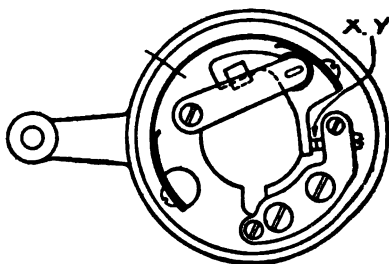
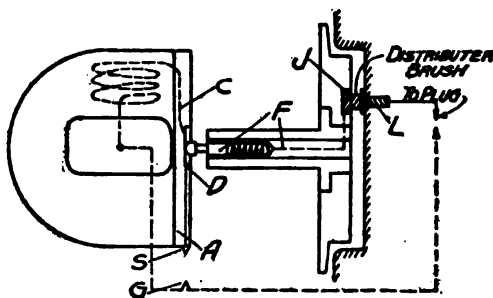

Fig. 75. Dixie Interrupter
Fig. 76. Diagram of Secondary Circuit in Dixie Magneto
*Y* the points of the interrupter or contact breaker. The terminal *D* is a screw on the head of the coil, and the wire *Z* connects directly with the contact *Y* of the interrupter. Fig. 75 shows the details of this interrupter, the housing of which is attached to the mounting of the windings, while the details of the secondary circuit are shown in Fig. 76. *C* is the end of the high-tension, or secondary winding of